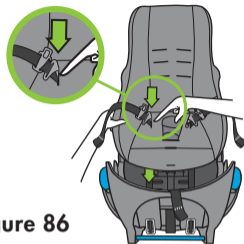

Figure 86
- Push Buckle Tongue down through hip strap opening in Carrier Cover and Inner Carrier Shell, as shown in **Figure 86**.